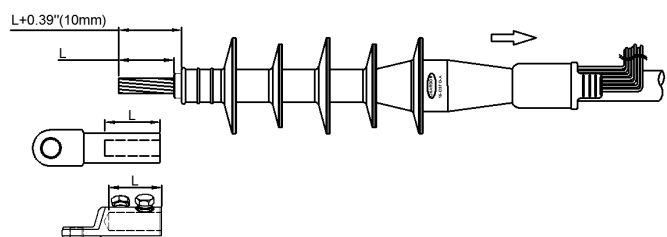

Fig.11
- Remove the insulation to expose the bare conductor according to lug depth "L" as shown in Fig.11.